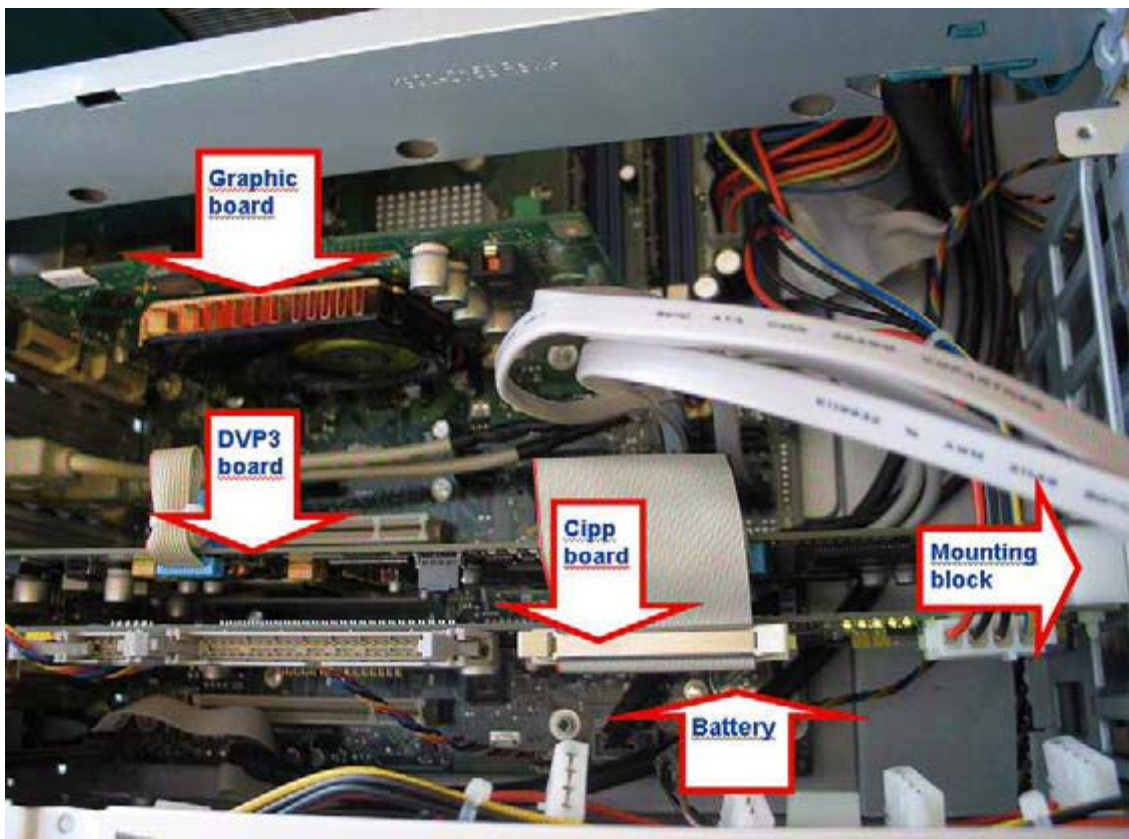

Fig. 61: Components M450_
6. Remove the mounting block (mounting block/ Fig. 61 / p. 106)